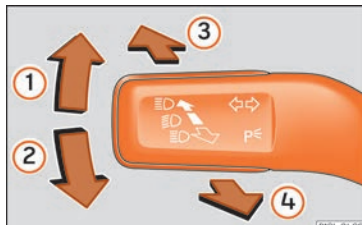

Fig. 116 Turn signal and main beam lever.
- From the base position, press the turn signal and main beam headlights lever forwards  **Fig. 116 3**  When the lamp  is displayed on the instrument panel display, the main beam assist is switched on.
- **OR:** while the main beam is on, pull the turn signal light and main beam headlights lever forwards  **Fig. 116 4**.